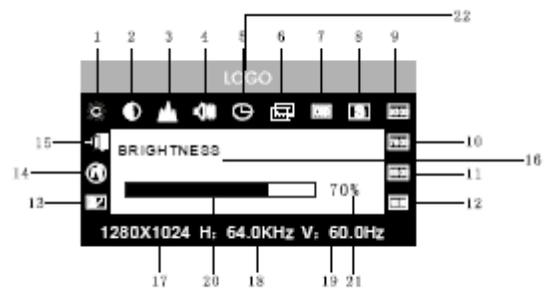

Fig.6
3.4.2 The meaning of the menu in DVI mode(Fig.6)